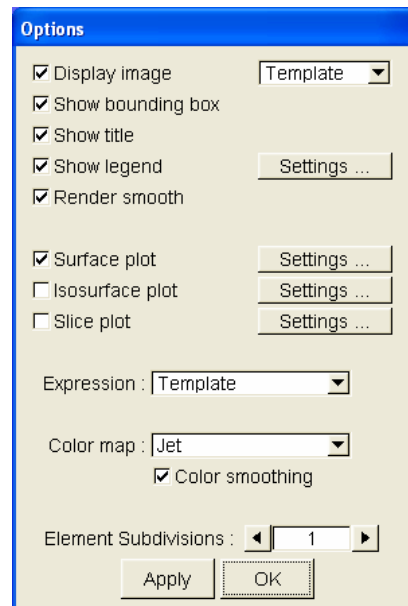

Figure 3. The Post-options dialog box.
**Changing the surface expression.** By default, when loading a project, WarpLAB will display the template value on the surface. To change this, open the post options dialog by selecting the *Post/Options* menu. You should see the Options dialog box, such as displayed in figure 3.